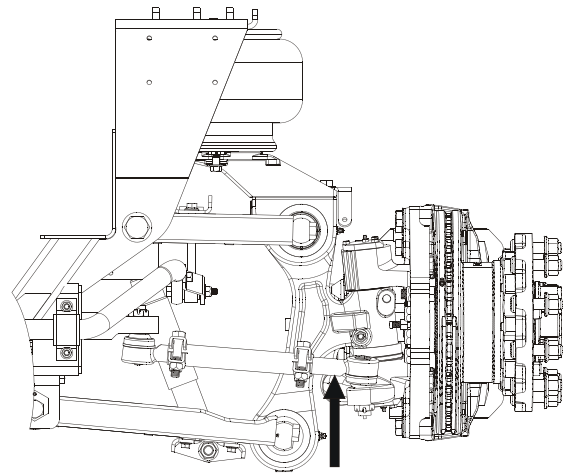

Figure 6 - Tie Rod Inspecting the ABS Sensor and Tone Ring
1. With the engine on, lightly rock the steering wheel and have an assistant observe any looseness in the two mating tapers or any movement of the stud nut at both ends of the tie rod. **(Figure 6)**. If looseness is found in either place go to step 2, otherwise skip to step 3.
3. With the engine off and the wheels steered straight ahead, grab the tie rod near its end and try to move the socket in a direction parallel to the ball stud axis. **(Figure 6)**. Be sure to only apply hand pressure to the tie rod.
6. Check tie rod clamp orientation **(Figure 6)**